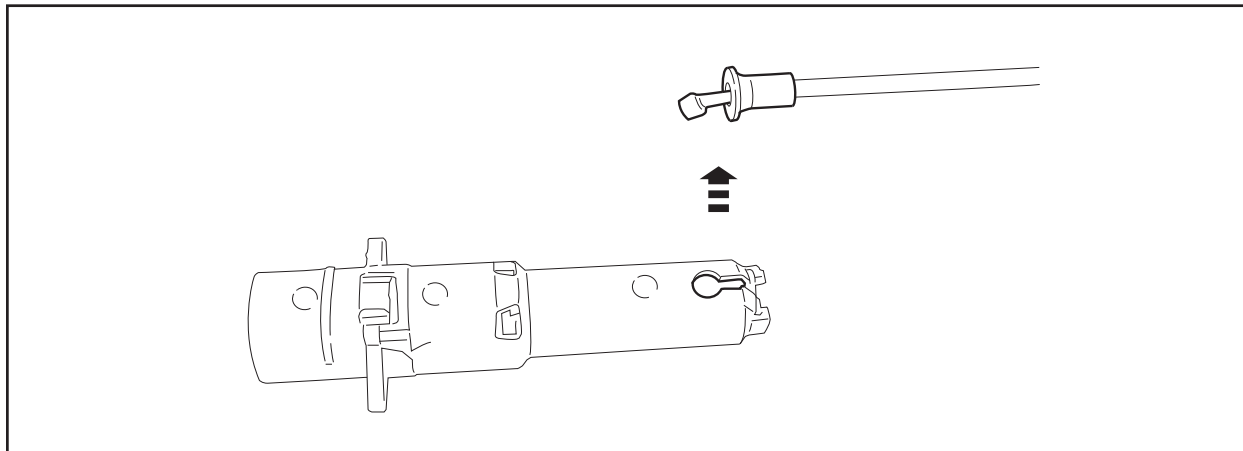

FIGURE 10
16. Disconnect the manual lumbar control from the cable. See Figure 10.